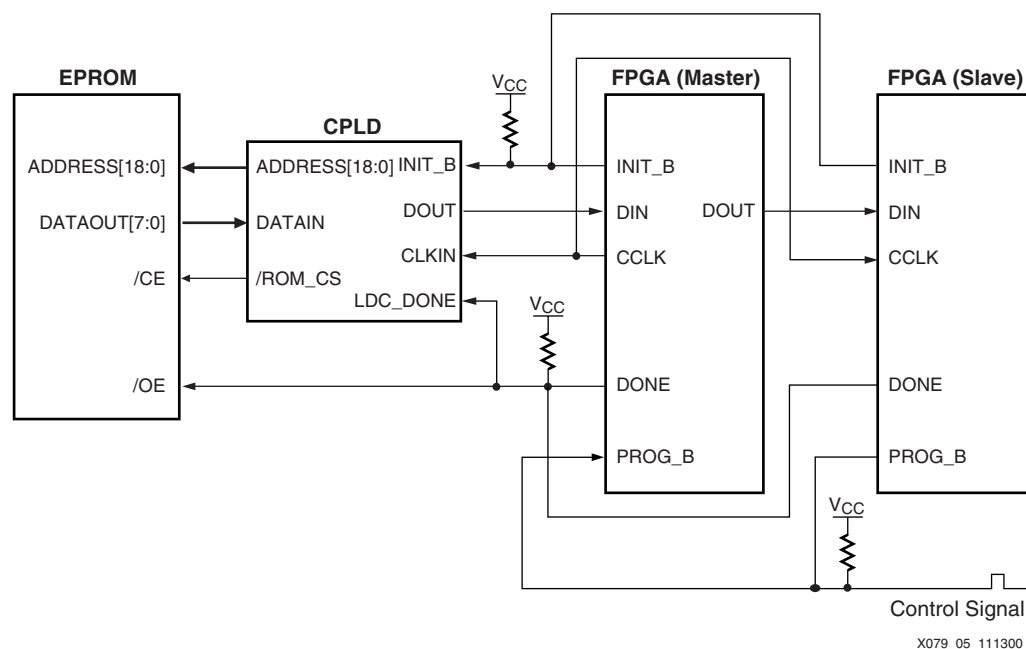

Figure 3-8: Configuring Virtex-II Using a CPLD and Parallel PROM
- XAPP079: *Configuring Xilinx FPGAs Using an XC9500 CPLD and Parallel PROM* (available on www.xilinx.com) describes an architecture that configures a chain of Virtex-II devices using Master-Serial mode. See Figure 3-8 for an example of FPGA configuration using a CPLD and a parallel PROM.